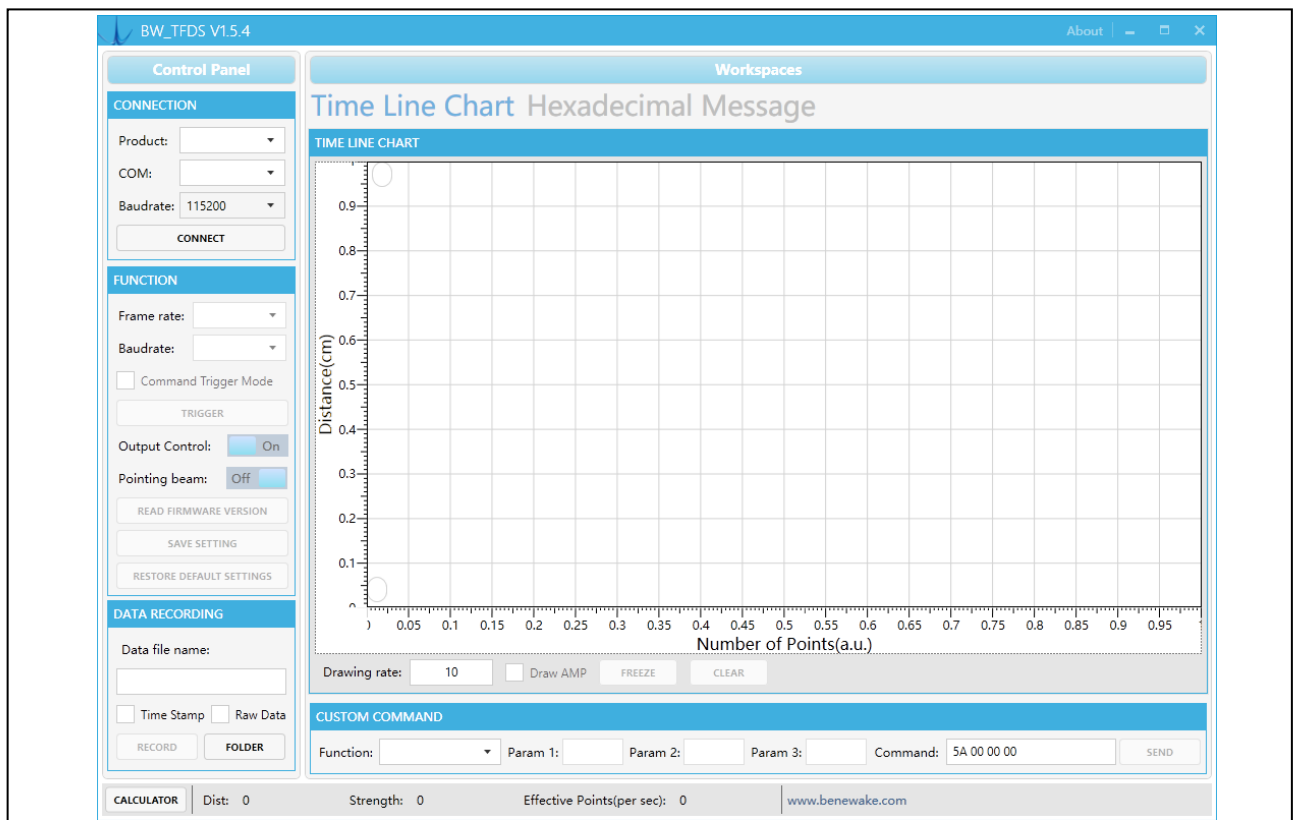

Figure 19 Benewake testing GUI for TF series
- See Figure 19 Benewake testing GUI for TF series of the GUI.